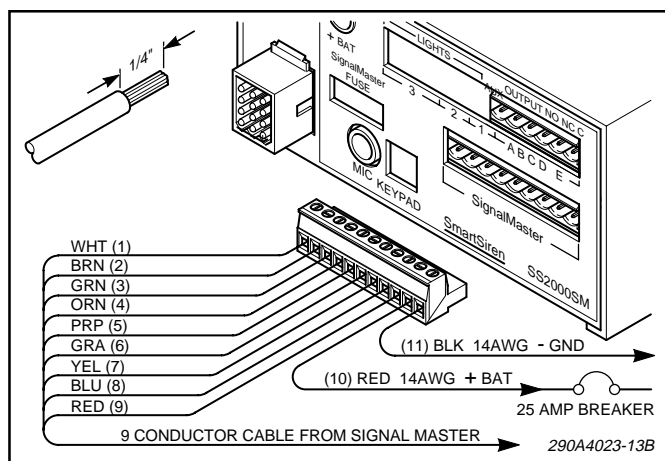

Figure 3-11. SignalMaster Connections.
d. Strip 1/4" of insulation off each wire at the eleven-position connector end. Insert the eight 22-gauge wires, the 16-gauge red wire, and the 14-gauge red and black wires into the connector as shown in figures 3-11 and 3-12. Tighten the screw at each connector position to secure the wires in the connector.